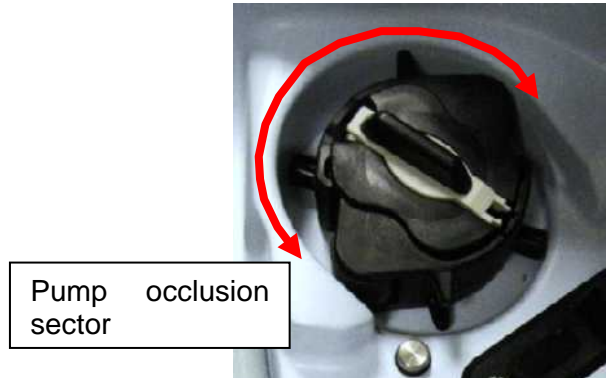

Fig. 15.2-2
- Stop the pump so that one of the pump roll is in the occlusion sector (see fig. 15.2-2), so that it occludes the tube, and wait 60 s to check that on the calibrator the pressure is not decreasing below max 0,1 bar;